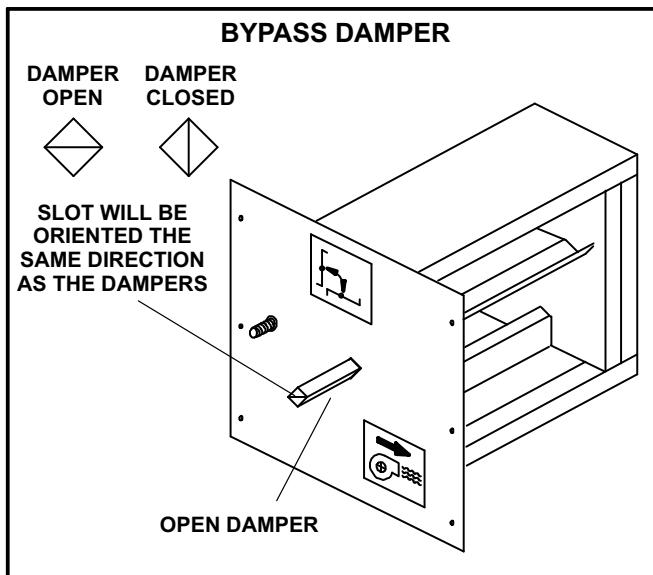

FIGURE 12
- 6- Rotate the damper shaft to the open or horizontal position. The slot on the end of the shaft will be oriented the same direction as the dampers. See figure 12.